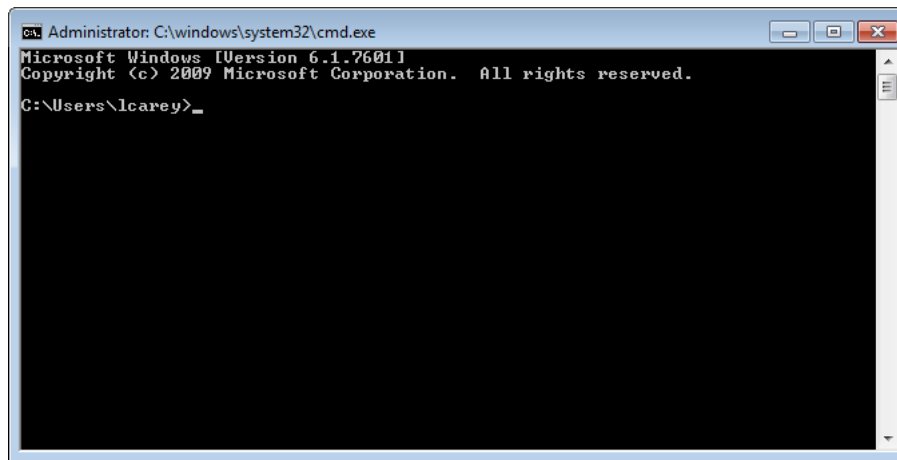

FIG. 17 Windows command interpreter (Cmd.exe)
2. Type **cmd** in the *Open* field and click **OK** to open an instance of the Windows command interpreter - "Cmd.exe" (FIG. 17):